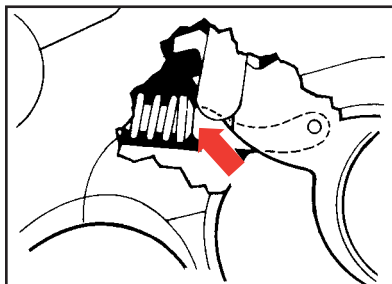

Figure 13
3. With the trigger forward, replace mainspring lever with mainspring and strut into frame. *Be sure that the front end of the mainspring strut is properly positioned on the trigger link at the rear of the trigger* (positioning can be seen by looking down through hammer slot). Then replace lever pivot pin (See Figure 13).